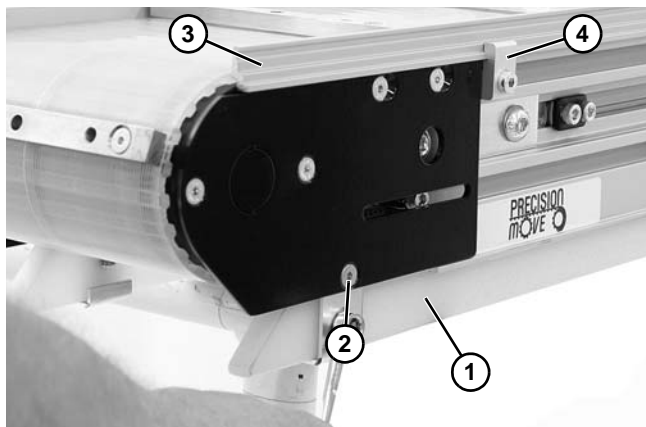

Figure 20
4. For fixture belt conveyors, on the opposite side of the gearmotor, remove the UHMW return rail (**Figure 20, item 1**) by removing support clip screw (**Figure 20, item 2**).
5. Remove guiding (**Figure 20, item 3**) by removing clip (**Figure 20, item 4**) on both ends of conveyor).